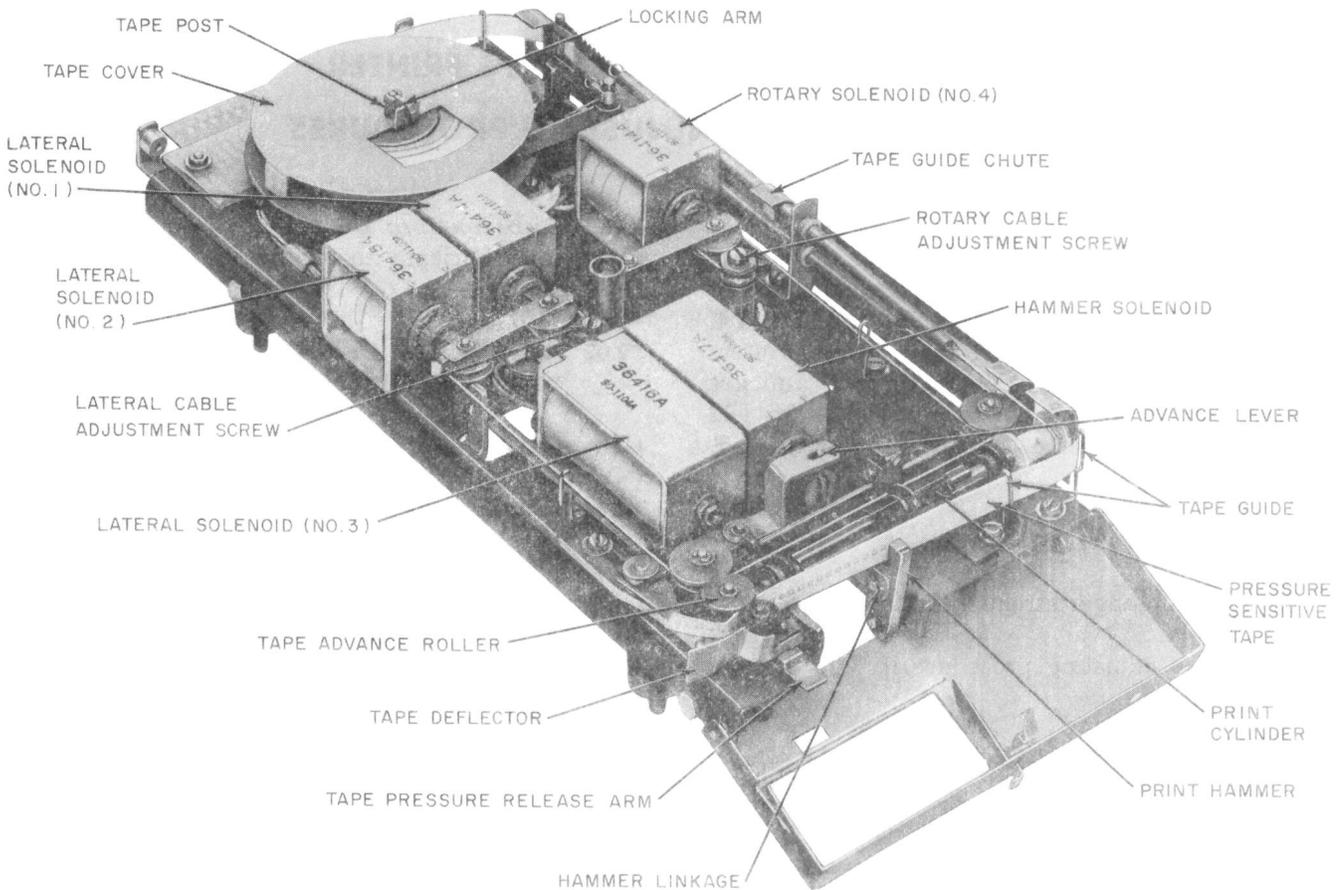

Fig. 1—KS-19717 L5 Tape Printer—Cover Removed
1.05 To show the location of component parts, the KS-19717 L5 tape printer, with cover removed, is illustrated in Fig. 1.